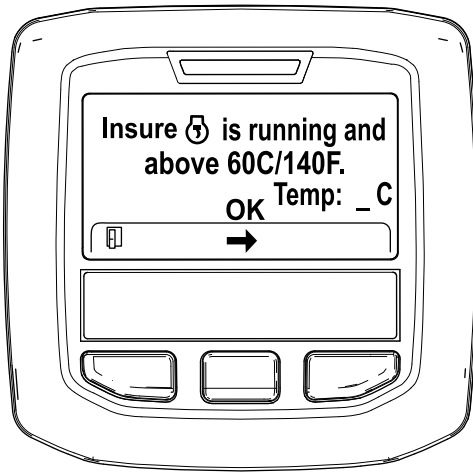

Figure 27
5. If the coolant temperature is below 60°C (140°F) the "Insure  is running and above 60C/140F" message displays. (Figure 27).